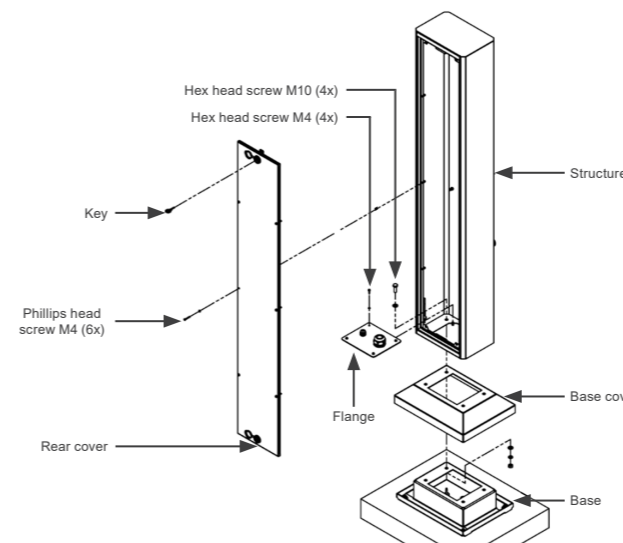

Figure 3.3: Exploded Rear View of the Assembly
The assembly of the totem to the product's fixing base is shown in Figure 3.3, using four (04) M10 hex bolts, which are supplied with the product. The recommended tightening torque is 35 Nm.